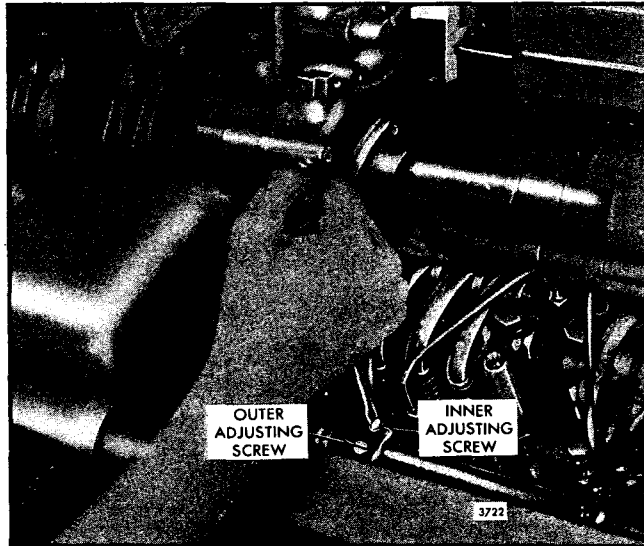

Fig. 4 - Positioning No. 4R Injector Rack Control Lever
6. Adjust the No. 4R injector rack by turning the inner adjusting screw down until it bottoms on the control tube (Fig. 4). Turn down the outer adjusting screw until it also bottoms on the control tube. Then tighten both the inner and outer adjusting screws alternately.